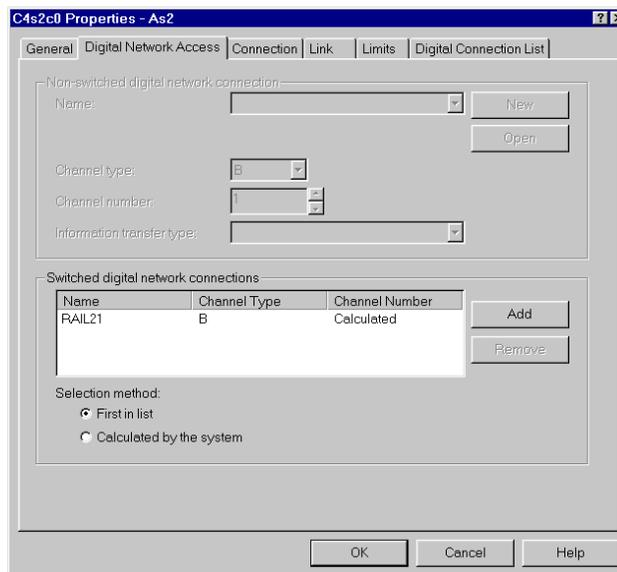

Figure 105. Verifying the resources for the line
4. Click the **Digital Network Access** tab (Figure 105).